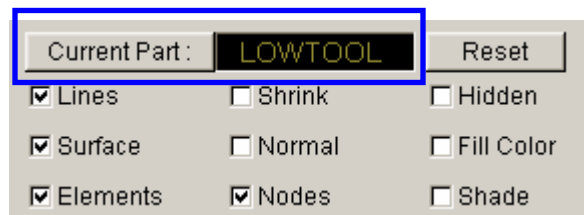

Figure 17: Current part icon
1. To change the current part, click on the **Current Part** icon in the **Display Options** dialog illustrated in Figure 17.